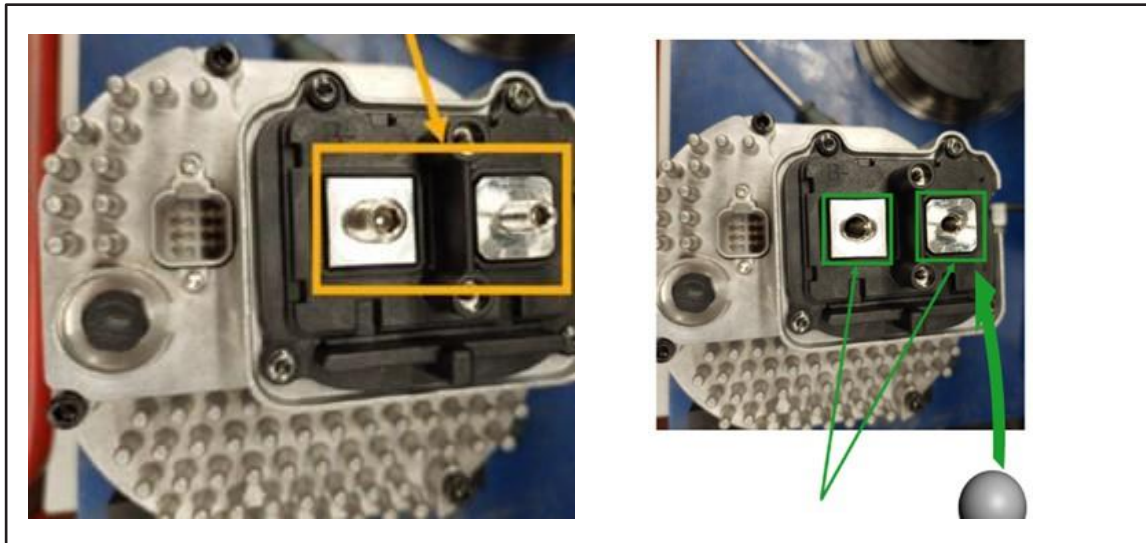

Figure 4 - Installation of Steel Ball
- 1.7. Unscrew studs and insert steel ball N620000252 and screw terminals (see figure 4).